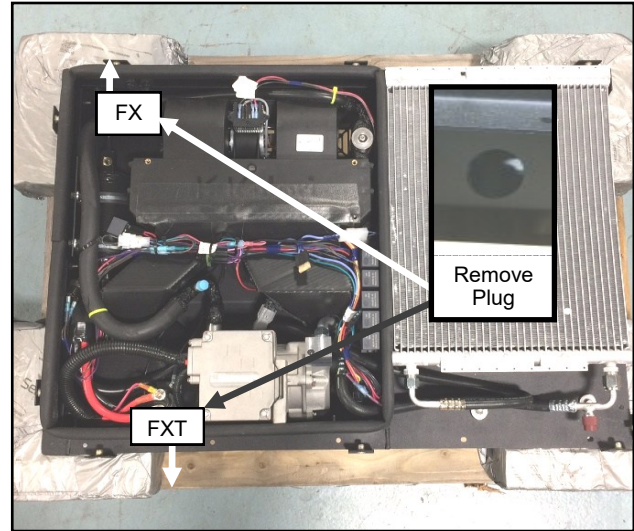

Fig. 1.1 (Remove dome plug from A/C Unit)
- 1.1 Before removing the A/C Unit from shipping pallet, remove the cover from the unit (save the hardware for re-use) and then remove a 1-3/8" dome plug on the front or rear side of the A/C Unit based on the vehicle it will be installed on per Fig 1.1. The wire will be routed through this hole.